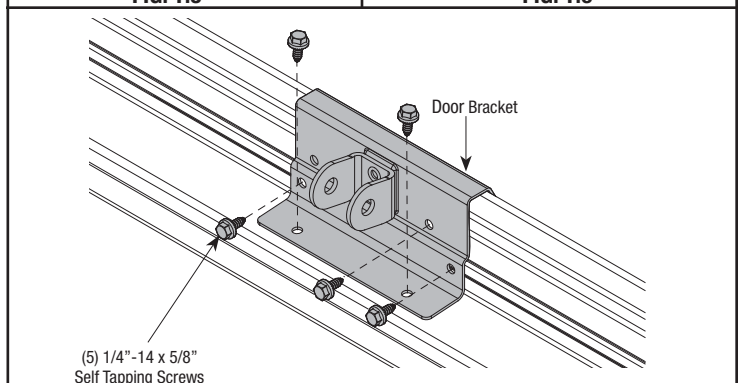

Fig. 1.7 Top Section Without U-Bar
**NOTE:** See FIG. 1.7 for installing door bracket on top section without u-bars.